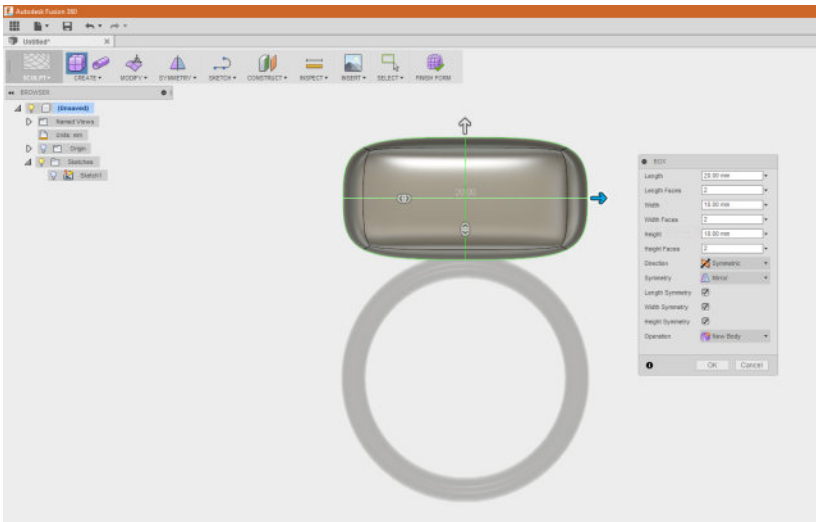

Figure 11-15. Positioning the 4 x 4 x 4 rounded-edge cube above and touching the ring
position the cube around the “top” of the ring, somewhat overlapping the shaded ring, as shown in Figure 11-15.
18. Let’s pretend we are jewelry designers and happen to know the settings shown in Figure 11-15: